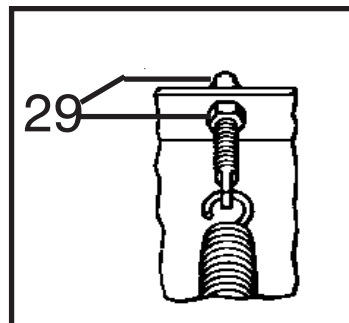

Figure 1
- A. Assemble Pivot Assembly (22) to A-Frame (23) using Pivot Pin (28) and Cotter Pin (32). **Note: Liberally coat Pivot Pin with a chassis grease/anti-seize lubricant.**
- B. Assemble Eye Bolts W/Locknut (29) to Trip Springs (24&26). Install four Trip Springs (26) onto Pivot Assembly (22). (Open end of hooks must be facing down on pivot assembly.)
- C. Guide Eyebolts into A-Frame (23) Attach Eye Bolts (29) to A-Frame (23),
- D. Make certain each Eye Bolt (29) is in a vertical position as shown in figure 1 so that the Eye Bolt (29) and Trip Spring (26) hinge properly when moldboard trips.